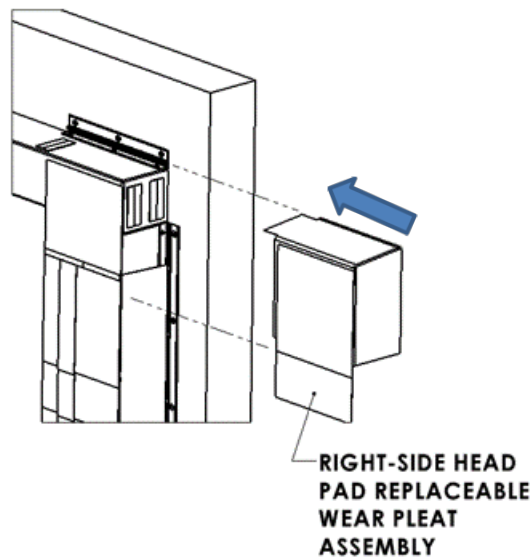

FIGURE 6
- c. Take the Right-Side Head Pad Replaceable Wear Pleat Assembly (D) and insert the welt horizontally into the outer end of the Short Bracket w/Seal (Figure 6).